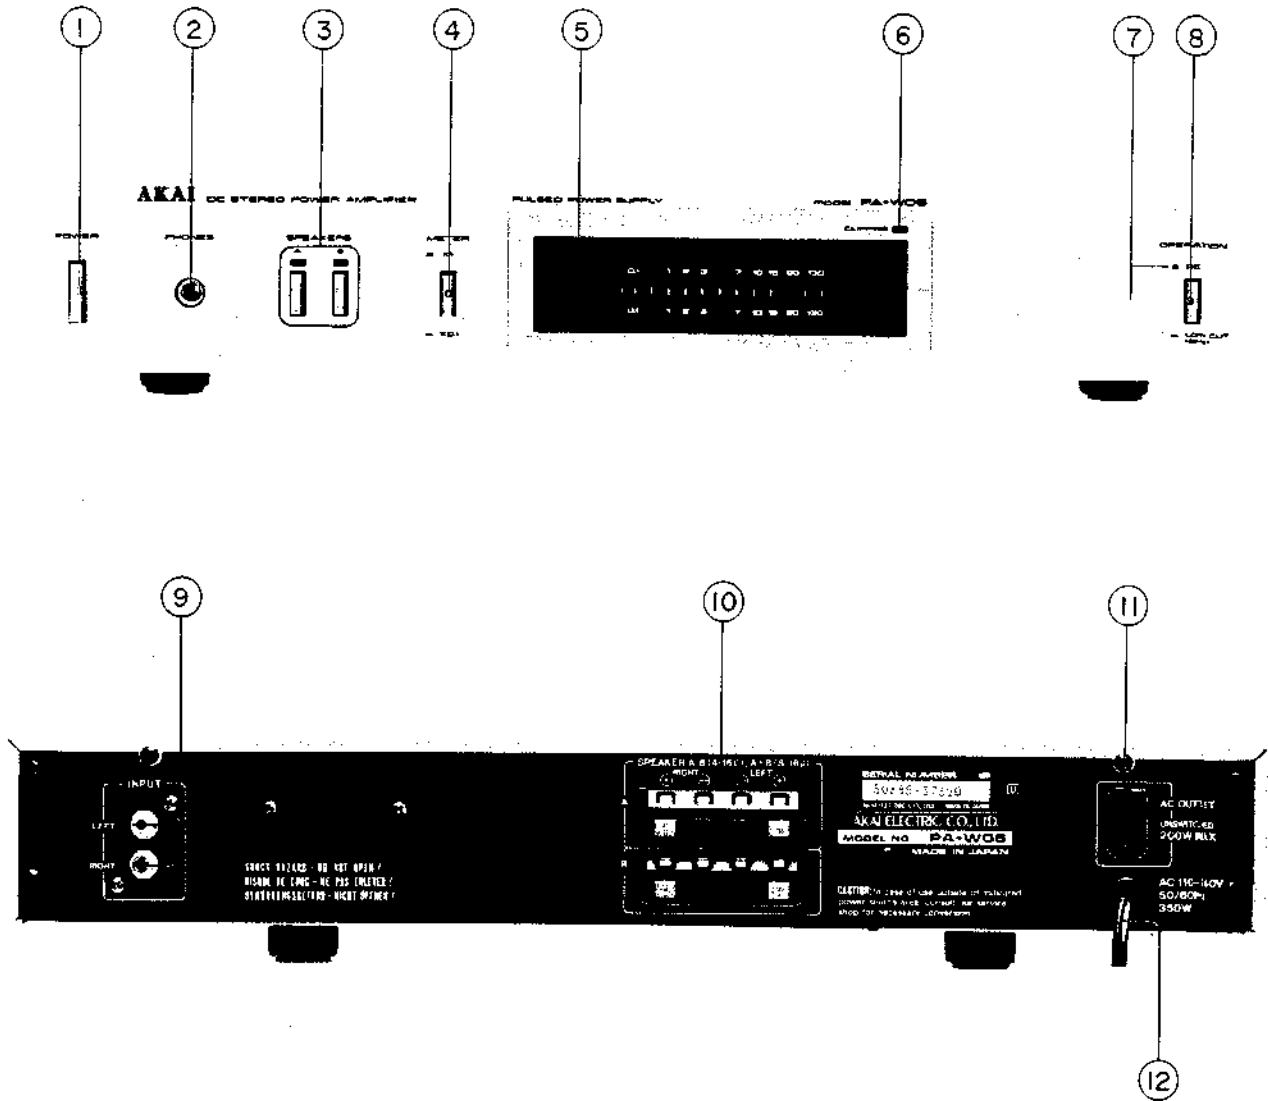

Fig. 1 Controls
4. Set the slide switch located at the right hand side of the pulse power supply unit in Fig. 1.